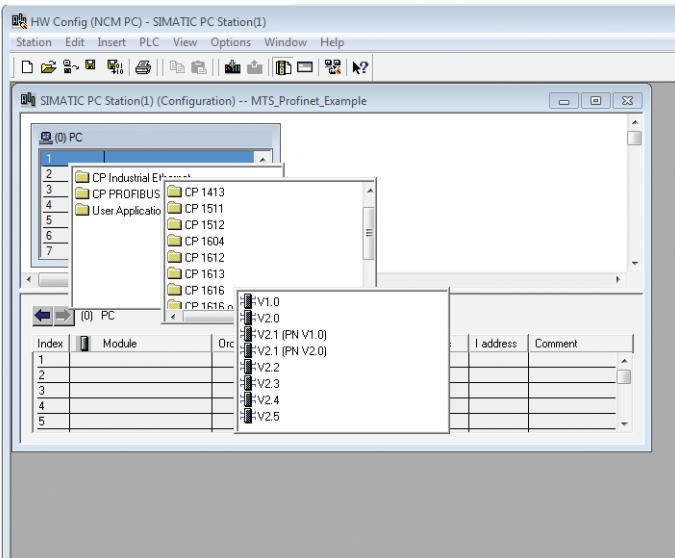

Fig. 30: Insert controller into the network (step 2) (source: Siemens)
- CP Industrial Ethernet (Fig. 30)
- CP1616 (Fig. 30)